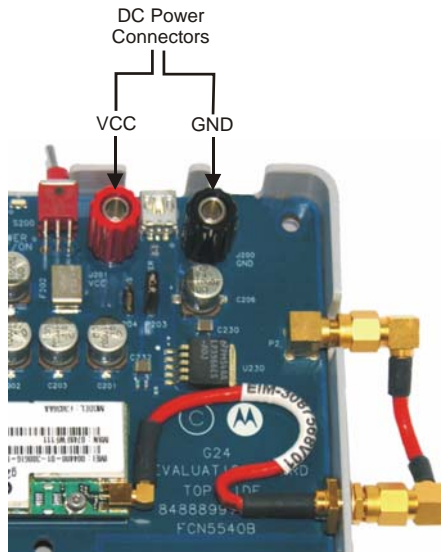

Figure 2-9: DC Input Connectors
2. Attach the supplied DC input connectors to the Developer Board (Figure 2-9).